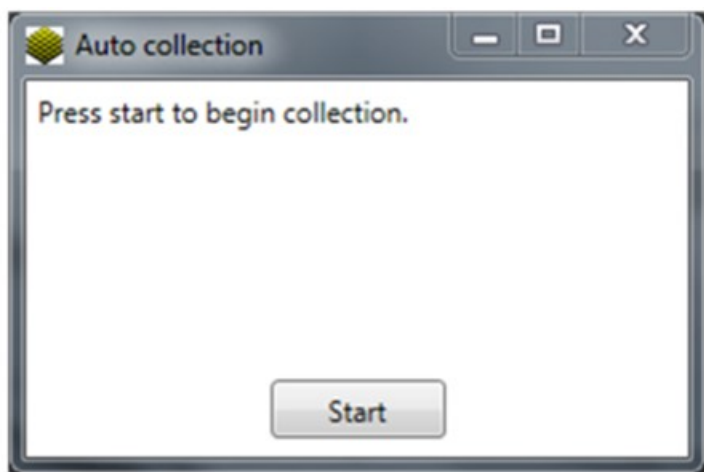
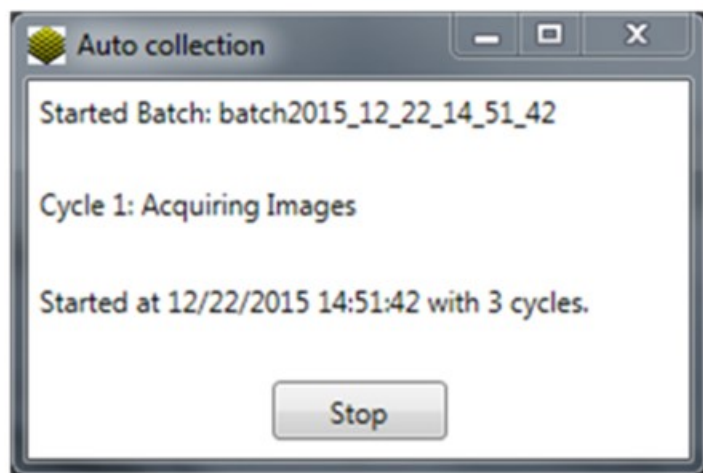

Fig. 17. Auto Collect Start Window
Fig. 18. Auto Collect Status Window
25. Select the folder → enter the time interval between each scan and the number of samples → click “**Auto Collect**” button. A window similar to Fig. 17 will appear. Click “**Start**” when ready.
26. While the **Auto Saving** is running, you will see a window similar to Fig. 18. When the recording is finished, you will see the window similar to Fig. 17. If you are finished, simply close out the window.